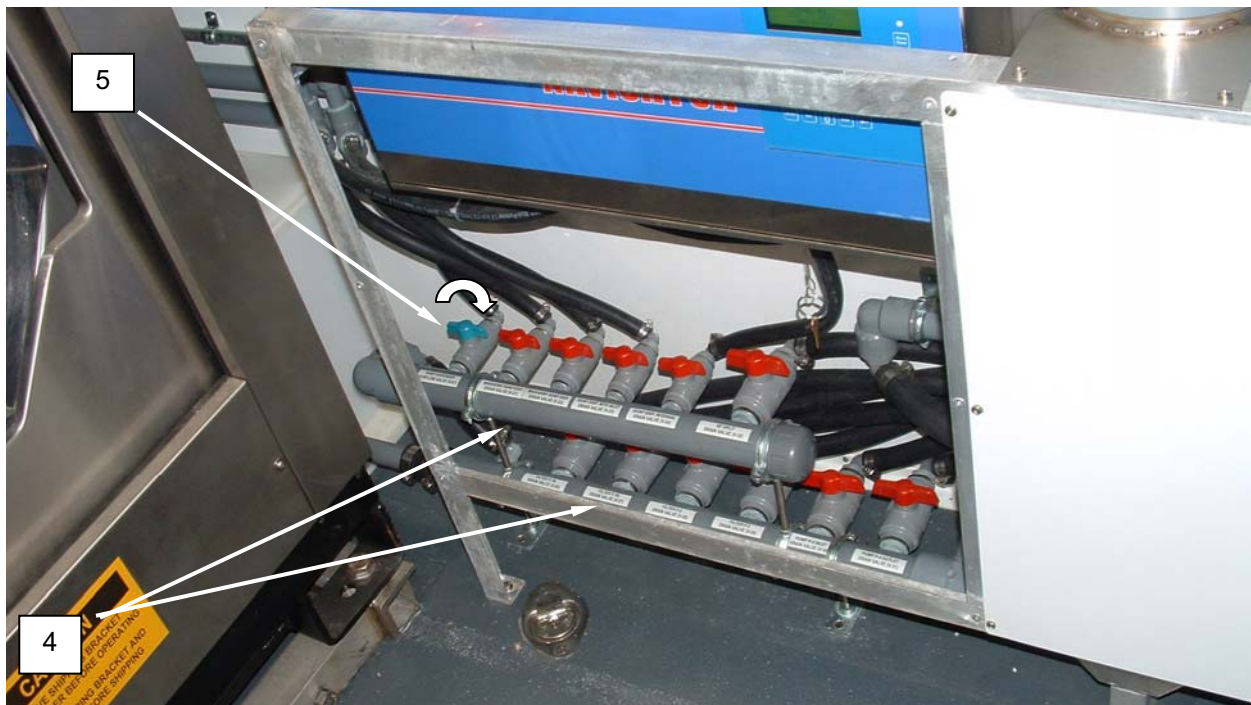

Figure 4. Location of Drain Manifolds.
3. Locate the drain valve manifolds (**Figure 4, Item 4**) inside the container.
4. Ensure the drain valves on both manifolds (V-21 through V-31) (**Figure 4, Item 4**) are all closed.
5. Ensure the Automatic Soap Dispenser overflow valve V-61 (**Figure 4, Item 5**) is open.